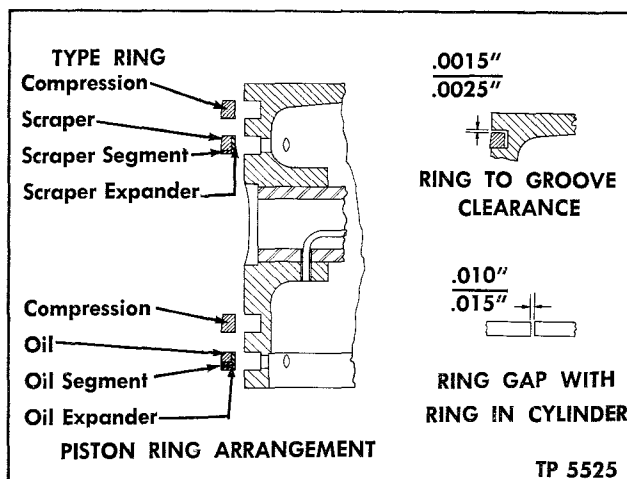

Figure 22—Piston Ring Arrangement and Clearances
Check fit of piston rings in ring grooves in pistons (fig. 22). Clearance between the ring and the ring groove must not be less than .0015 inch or more than .0025 inch. Install ring in cylinder bore and measure ring gap (fig. 21). Used rings which have a gap of more than .020 inch must be replaced. New rings must have .010 to .015 inch gap.
2. Install piston rings in grooves in pistons. Four rings are used on each piston. Compression rings must be installed with silver mark on edge of ring up. Rings must be installed in their proper location and position as shown in figure 22. Note that segment rings and expander rings are used in conjunction with oil ring and scraper ring.